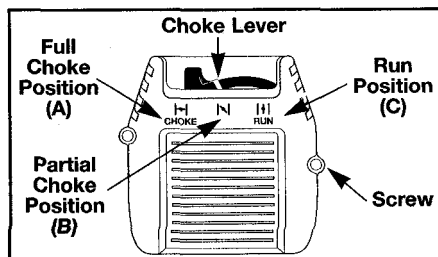

Fig. 11
4. **PLACE THE CHOKE LEVER IN THE "FULL CHOKE" POSITION (A)** (Fig. 11).
6. **PLACE THE CHOKE LEVER IN THE "PARTIAL CHOKE" POSITION (B)** (Fig. 11).
9. *Keep throttle trigger depressed to warm up engine.* After the engine warms up for 5 to 10 seconds, **PLACE THE CHOKE LEVER IN THE "RUN" POSITION (C)** (Fig. 11).